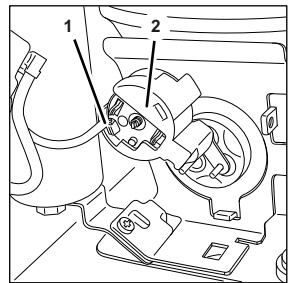

Figure 137
2. Disconnect the electrical cable (Figure 137/1) from the overload protection (Figure 137/2).
3. Remove the overload protection (Figure 137/2).
4. Position the new overload protection (Figure 137/2) within the unit.
5. Connect the electrical cable (Figure 137/1) of the overload protection (Figure 137/2).